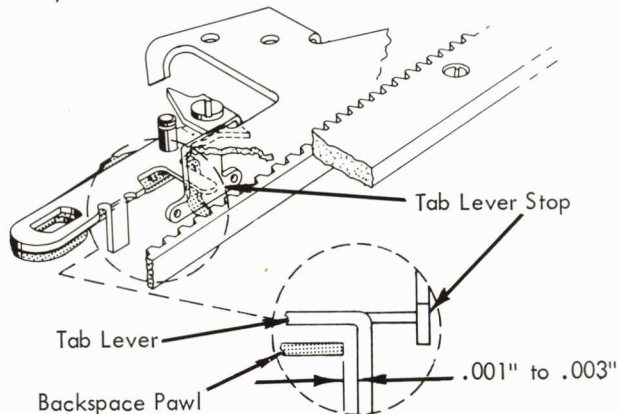

FIGURE 171. Tab Lever Stop
1. Tab Lever Stop - Form the stop on the escapement bracket (Fig. 171) to obtain .001" to .003" clearance between the vertical lug on the tab lever and the backspace pawl when the tab lever is at rest and the backspace pawl is fully seated in its rack.